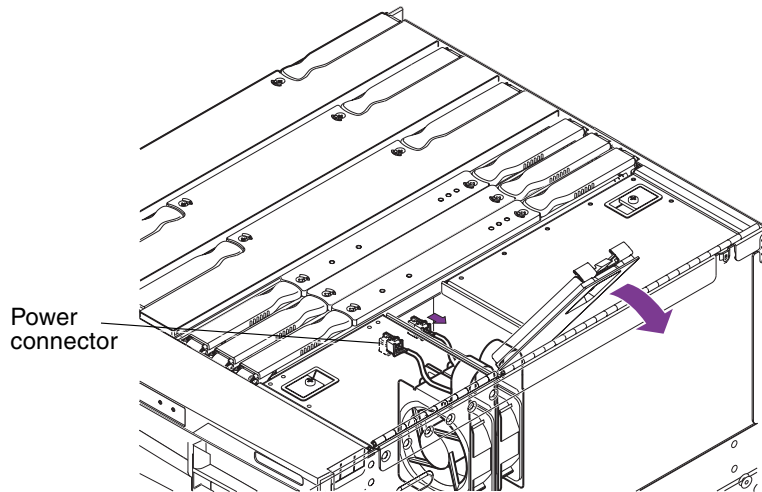

FIGURE 7-10 Identifying the Fan Power Connector
5. Identify the fan to be removed. Disconnect the power connector (FIGURE 7-10).
6. **Connect the power connector to the fan** (FIGURE 7-10).